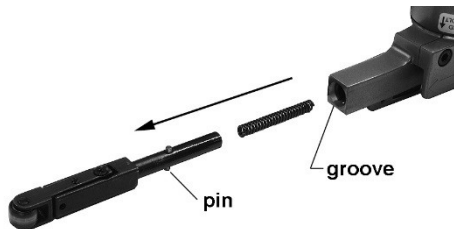

Figure 9
3. Pull out tension bar from housing, Figure 9. Be careful not to lose spring.
4. Insert new tension bar by lining up pin with pin groove. See Figure 9.